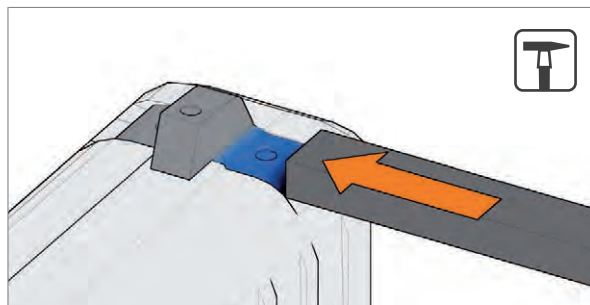

Fig. 27: Remove front sight
1. Remove front sight with tool (Fig. 27).